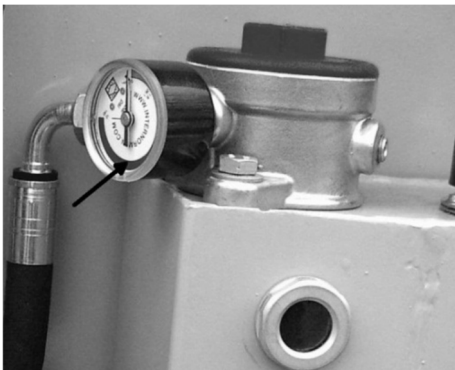

Figure 44
Remove the locking screws (P) of the hood and open the left side protection (V). (Figure 44)
Check the oil pollution filter indicator A. If the pointer appears on the red field, replace the oil filter. (Figure 44)
Lubrication of the knife drive gearbox (Figure 44)